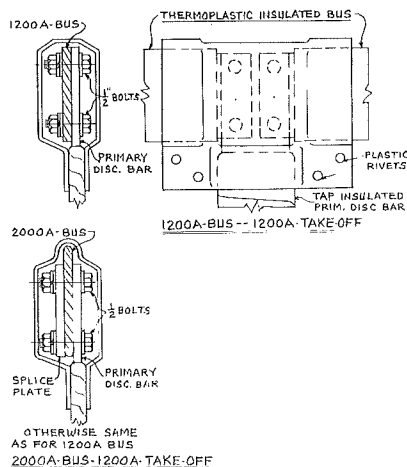

FIG. 25A (208A8953) 4.16 KV AND 13.8 KV BUS INSULATING BOOT
2- PVC(POLYVINYL CHLORIDE) boots Fig.25A.
- (2) Prepare all joints as outlined under "CONNECTIONS".
- (3) Place the PVC boot over the joint as shown in Fig. 25A.
- (4) Secure the PVC boot with self-locking fasteners furnished. Joint insulation is now complete.
- (5) Replace all covers previously removed.
- (6) Boots will be furnished for standard configurations, however special conditions must be taped.